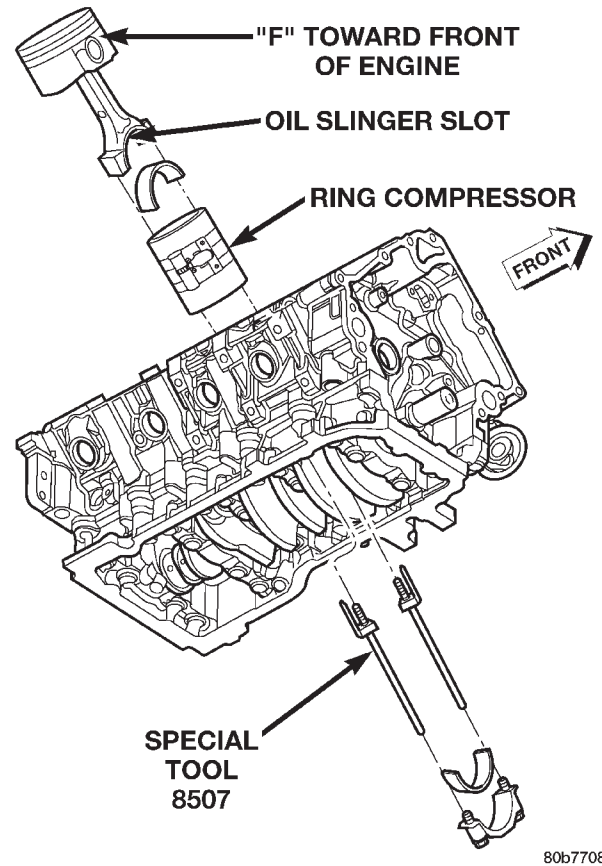

Fig. 20 Piston and Connecting Rod—Installation
- (1) Wipe the oil from the connecting rod journal.
- (2) Lubricate the upper bearing insert and install in connecting rod.
- (3) Use piston ring compressor and Guide Pins Special Tool 8507 (Fig. 20) to install the rod and piston assemblies. The oil slinger slots in the rods must face front of the engine. The "F"s near the piston wrist pin bore should point to the front of the engine.